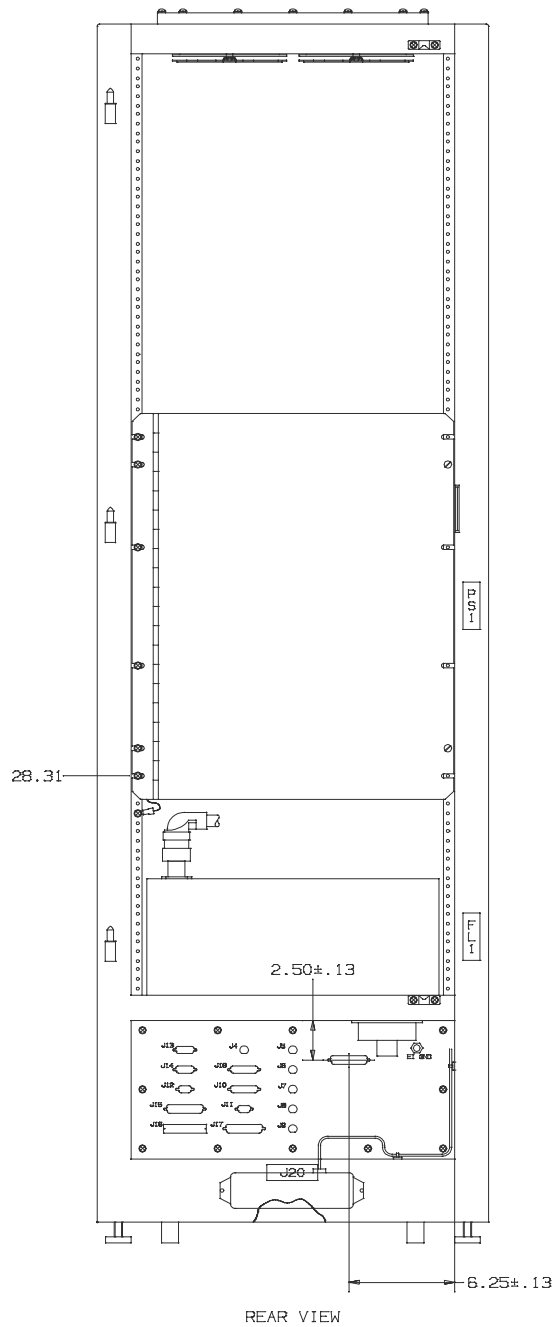

Figure 2 PUP Cabinet Overview (Rear)
- l. Open the left rear and right front doors of the UD41 cabinets and locate the cable entry panel located at bottom of the cabinet as shown in Figure 2.